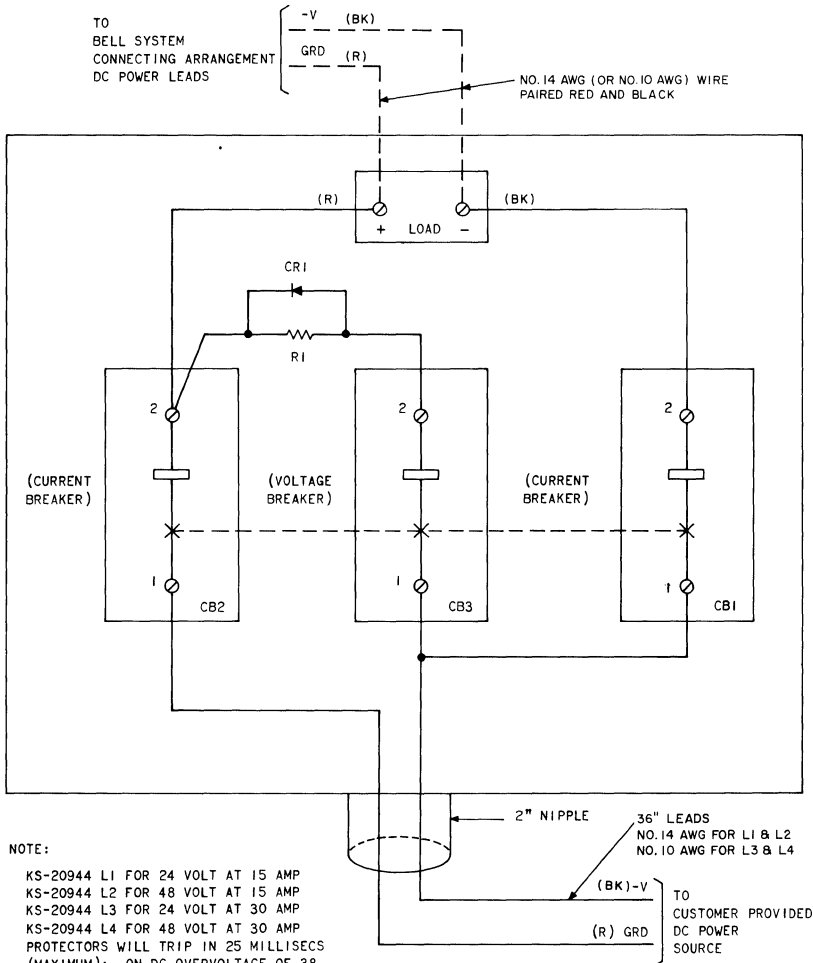

Fig. 13—Schematic—KS-20944 Protector
#### KS-20944 Protector (Fig. 13)
**3.27** Connect as shown in Fig. 13 following local wiring instructions. The customer must
### KS-20944 Protector (Fig. 13)
**6.07** For connection information using the KS-20944 protector, refer to Fig. 13.